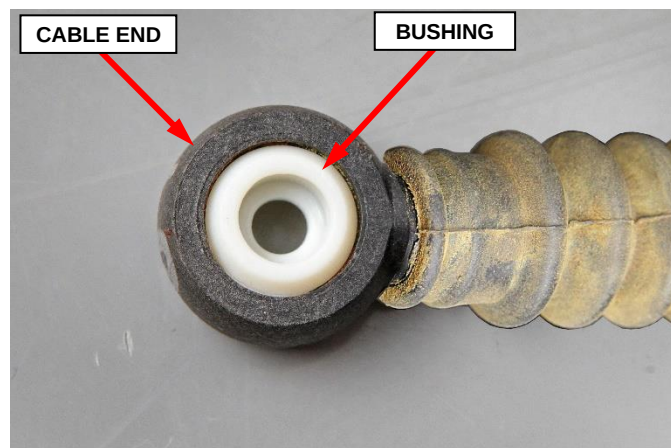

Figure 18 – New Bushing Installed
13. Ensure that the new bushing is fully installed into the cable end (Figure 18).